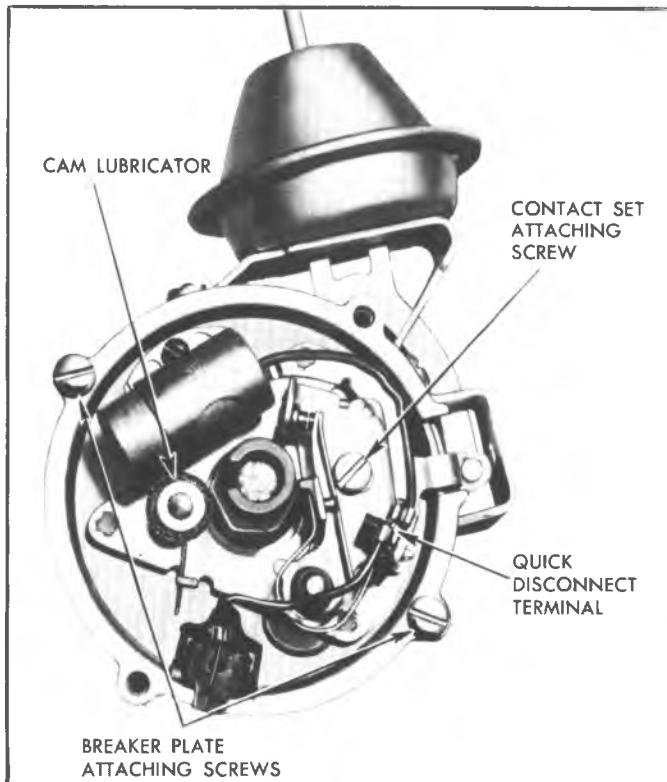

Fig. 13i—Breaker Plate and Attaching Parts
3. Pull primary and condenser lead wires from contact point quick disconnect terminal (fig. 13i).
##### **Six Cylinder Engine Distributor (Fig. 13i)**